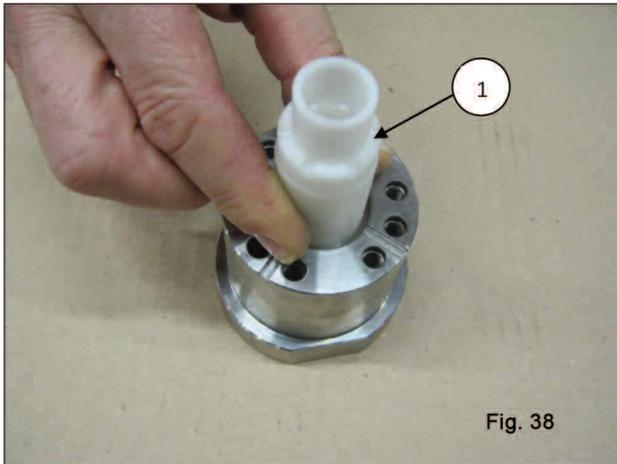
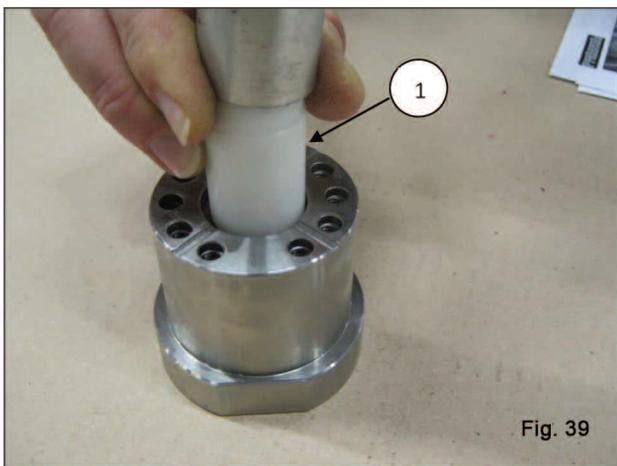
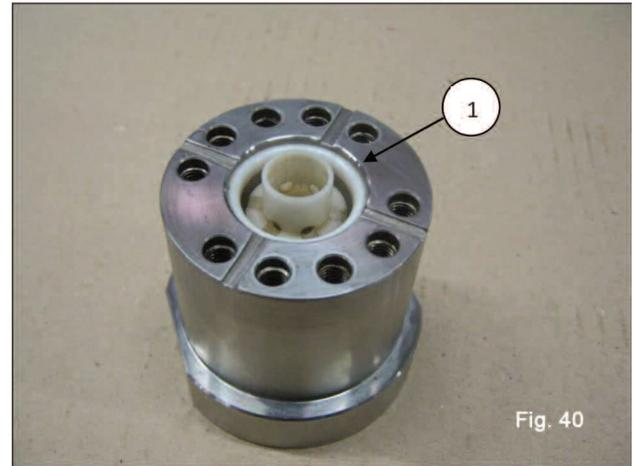

Fig. 38
Fig. 39
Fig. 40
- Insert the bushing for plunger and seal in the liner (1, fig. 38, fig. 39 and fig. 40).